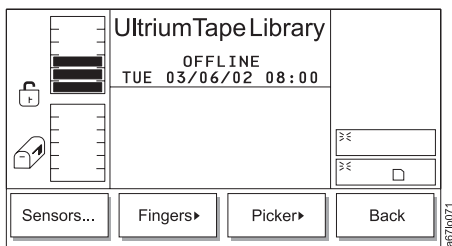

Figure 4-152. Diags Submenu
3. Press the button below the **Diags** softkey. The Diags Submenu displays (see Figure 4-152).